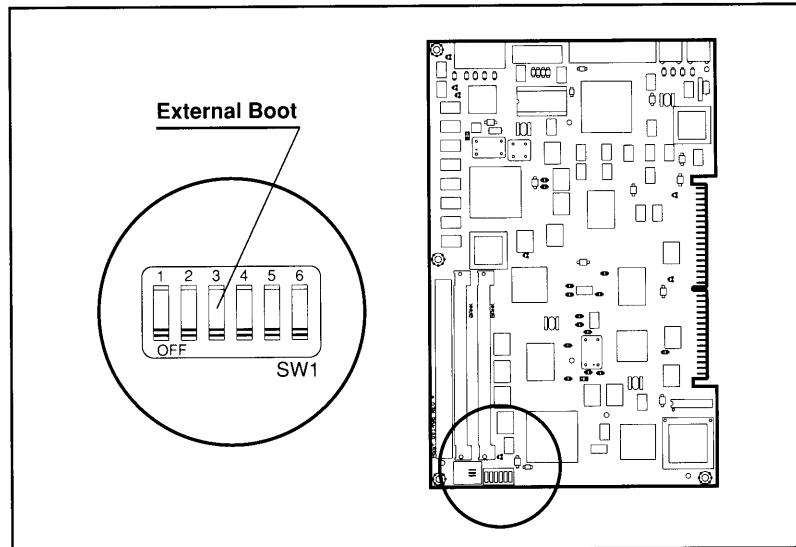

Figure 2-3. Switch for External Boot Control on the COMPAQ DESKPRO 386N System Board
2. Locate the switch on the system board (see the configuration label (Figures 2-3, and 2-4).